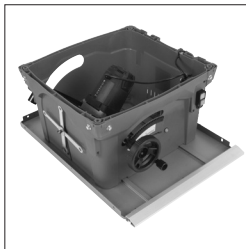

Fig. 2
- Carefully position the main body of the machine (inverted) on a secure, clean work-surface or workbench with the table top on the work-surface. **(Fig. 2)**